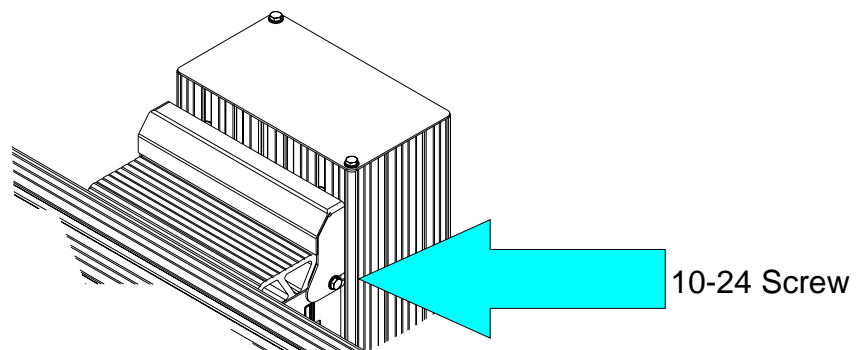

Figure 10
5. Install the upper and lower bracket covers onto the beam mount as shown in Figure 10. Loosen the hardware securing the communications board cover plate and slide the covers under the 10-24x3/8 self tap screws. Requires a 5/16 socket or nut driver. Make sure the covers do not contact the vertical support beam.